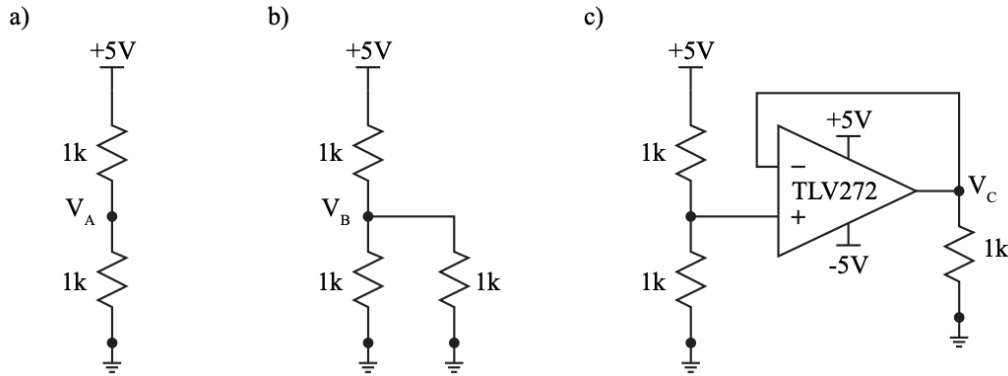

Figure 6.3: A simple voltage divider (a), voltage divider with a load (b), and a voltage follower between the output and the load (c).
1. Simulate all three circuits in Figure 6.3 using a DC operating point (.op). Keep all the circuits on the same schematic and table the voltages V_A , V_B , and V_C . Table your values and include images of your circuits.